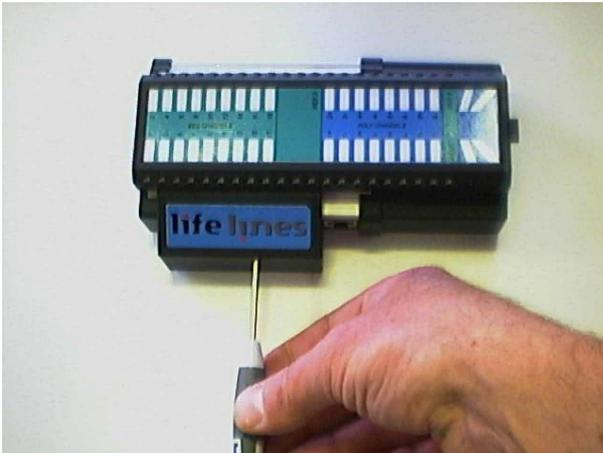

Figure 29 Clickon PCU Retaining screw location
- 5 Refit the rear Battery box/door, and screw it down with the special tool provided. See Figure 29. **CAUTION: do not over-tighten the locking screw – finger tight is all that is required.**